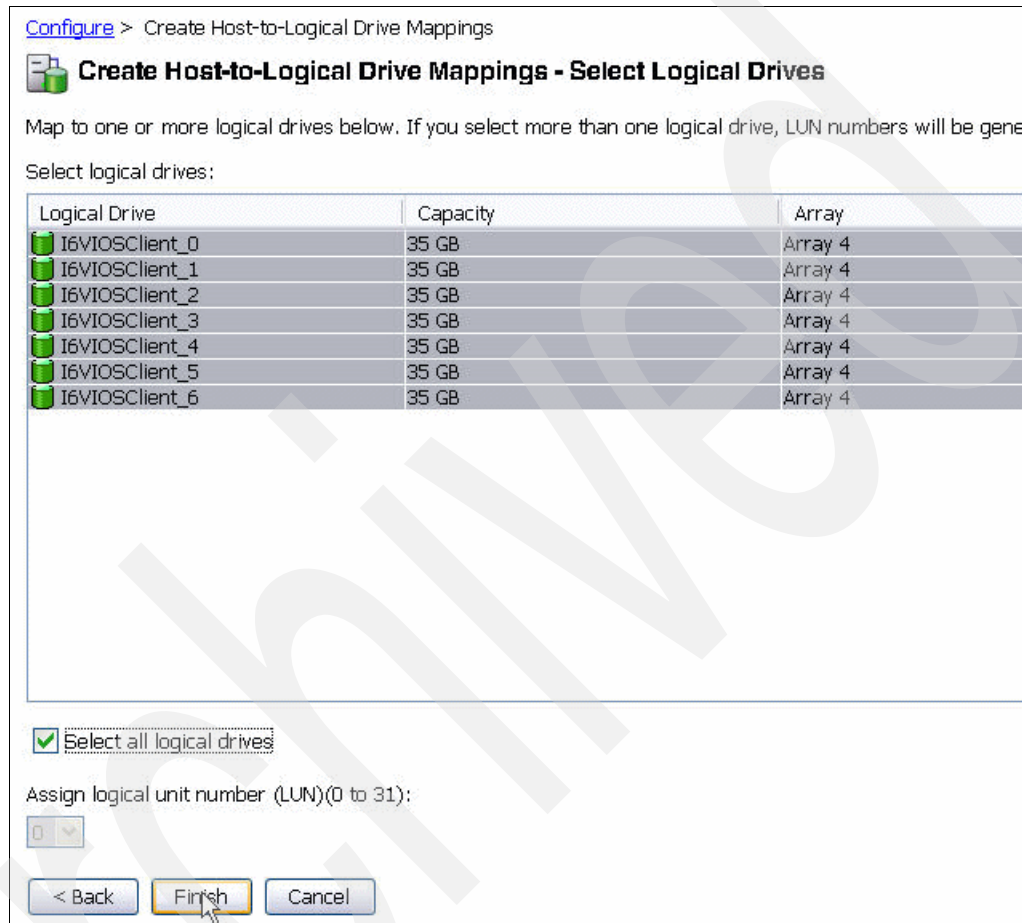

Figure 7-43 Select logical drives to map to host
- In the wizard window Select Logical Drives we check the box **Select All Logical Drives** since we want to map all of them to the VIOS host name, and click **Finish**. See Figure 7-43.